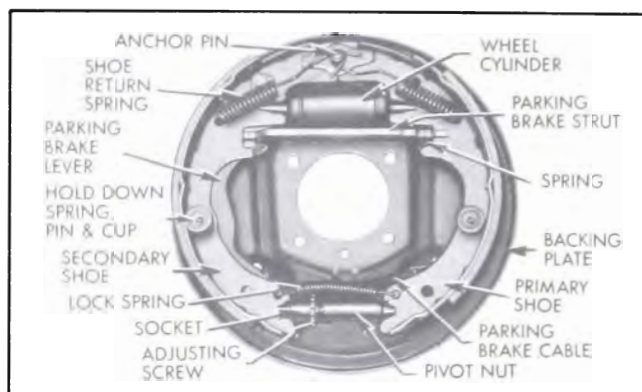

Figure 9-10—Rear Wheel Brake Assembly—Right
2. Unhook shoe return springs using large pliers. Remove shoe hold down springs, spread shoes to clear wheel cylinder connecting links, remove parking brake strut (rear only), and remove shoes from backing plate. Disconnect cable from parking brake lever (rear only). See Figure 9-10.
3. Separate the brake shoes by removing adjusting screw and lock spring. Remove parking brake lever from secondary brake shoe (rear only). See Figure 9-10.
1. On rear brakes only, lubricate fulcrum end of parking brake lever and the bolt with Bendix or Delco Brake Lubricant, or Lubriplate, then attach lever to secondary shoe with bolt, spring washer, nut, and Pal nut. Make sure that lever is free moving. See Figure 9-10.
4. Attach brake shoes to backing plate with hold down springs, pins, and cups, at the same time engaging shoes with wheel cylinder connecting links. The primary shoe (short lining) goes forward. On rear brakes, connect cable to parking brake lever and install strut between lever and primary shoe as installation is made. See Figure 9-10.